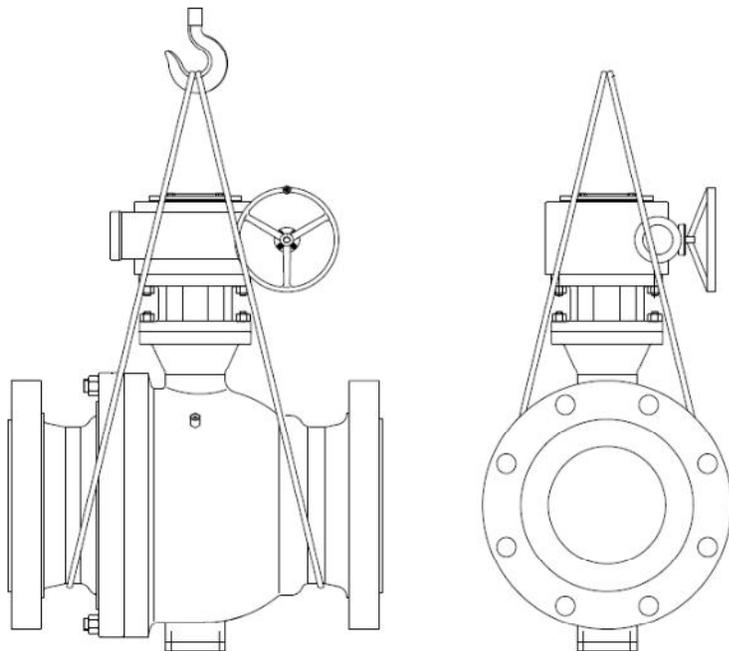

Figure 1
- 4.3.5 When lifting the valve with chains, the operation device should not touch the chains. At the same time, avoid the angle between the chains to be less than 60 degrees, see Figure 1.